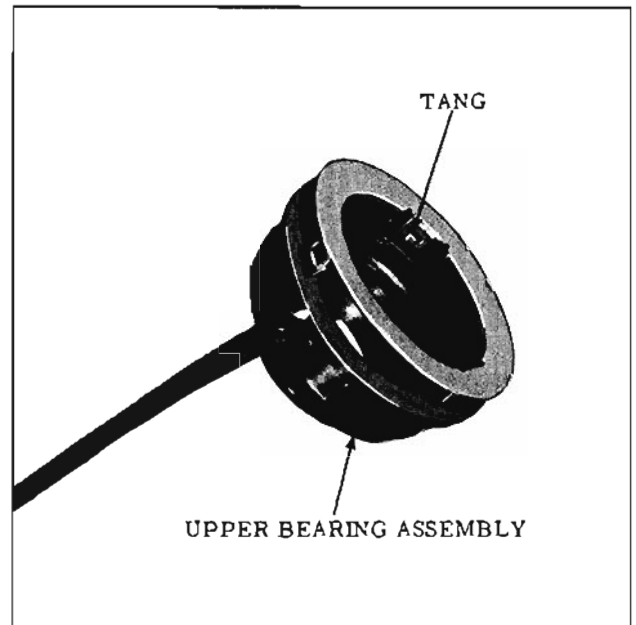

Fig. 8-81 Horn Contact Removal
3. Pry bearing from retainer, then pry horn contact from bearing just enough to expose horn wire tang. (Fig. 8-81)